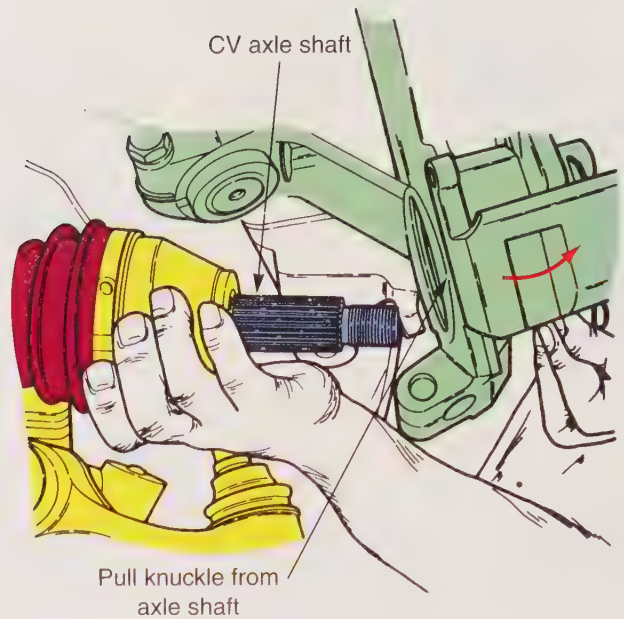

Figure 15-11. Once the other attachments are removed from the steering knuckle, it can be pulled from the CV axle shaft. (Ford)
11. Pull the steering knuckle assembly away from the vehicle until it clears the CV axle shaft, **Figure 15-11**. Then, remove the knuckle. If the steering knuckle must remain attached to other suspension parts, position it out of the way. Tie the steering knuckle to the chassis with wire if necessary.